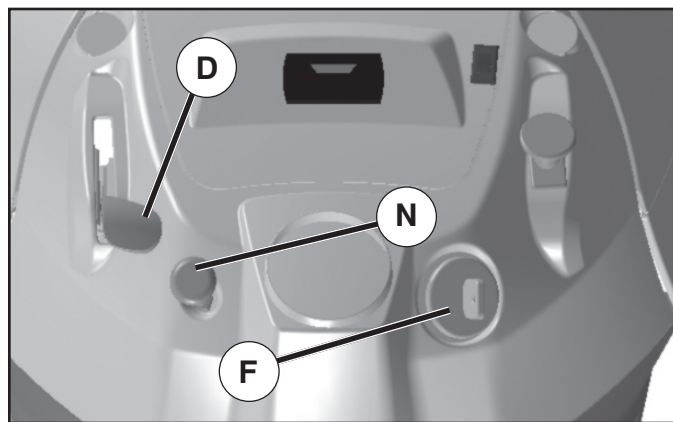

Fig. 17
TO USE THROTTLE CONTROL (D) (See Fig. 17)
TO USE CHOKE CONTROL (N) (See Fig. 17)